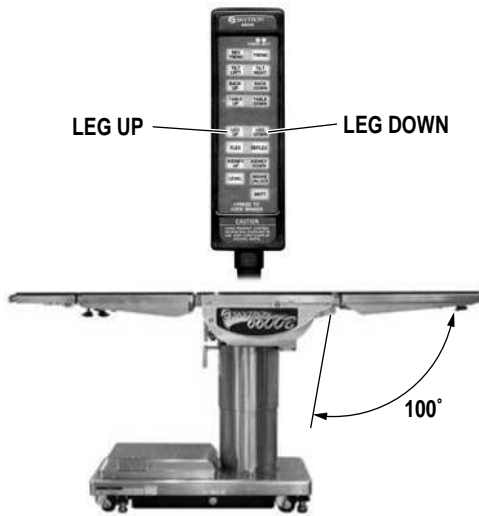

Figure 3-8. Leg Section Positioning
f. Leg Section. To lower the leg section, press the LEG DOWN button (figure 3-8). The leg section will go down to 100° below horizontal. To raise the leg section, press the LEG UP button. The leg section will go up to horizontal.